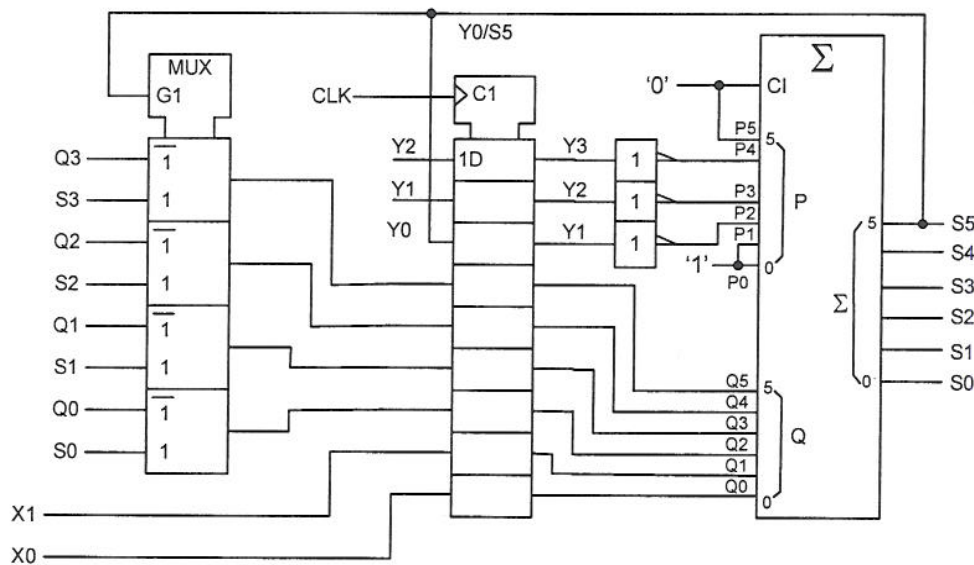

Figure 2.1
2. Figure 2.1 shows a circuit for calculating the square root of an 8-bit unsigned binary number. The circuit consists of a multiplexer, a register and a 6-bit adder. The register is initially cleared, and then, beginning with the two most significant bits, the 8-bit number is applied, two bits at a time, to $X1:0$ and a clock pulse CLK is applied to the registers. After four pulses on CLK , the desired square root is available on $Y3:0$.